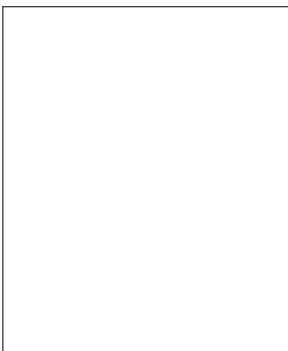
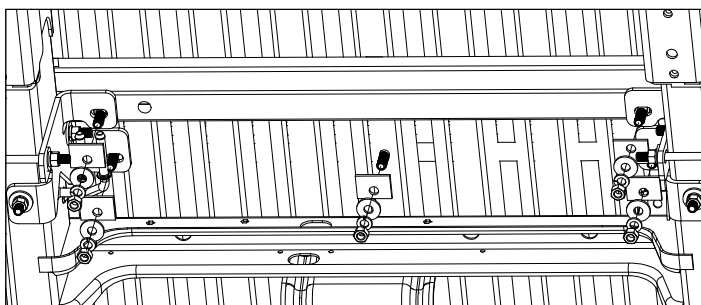

FIGURE B7: View looking up at the inside of driver side frame.
FIGURE B9: View looking up at the bottom of the truck bed.
- 4. Install the rear frame brackets.** Fasten the U-bolts and carriage bolt (under the frame) to the rear brackets with three 1/2" flat washers, 1/2" lockwashers, and 1/2" finish nuts, see figure B7 and B8. Install an offset rectangle washer, 1/2" flat washer, 1/2" lock washer and 1/2" nut on each of the carriage bolts passing down through the bed, as shown in figure B9. Hand tighten each nut.